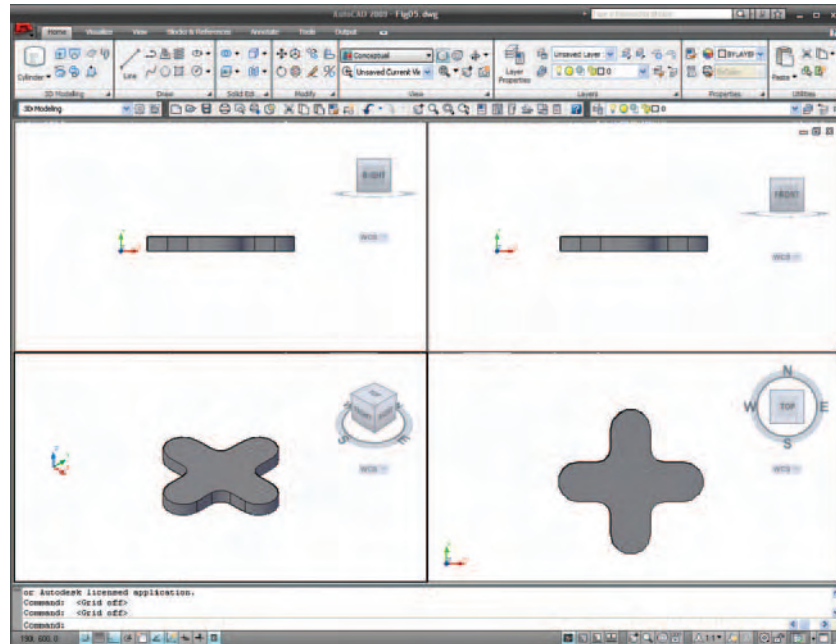

Fig. 13.6 The four views after using the **Extrude** and **Subtract** tools
5. With **Subtract** from the **Home/Solids Editing** panel, subtract the holes from the plate (Fig. 13.6).